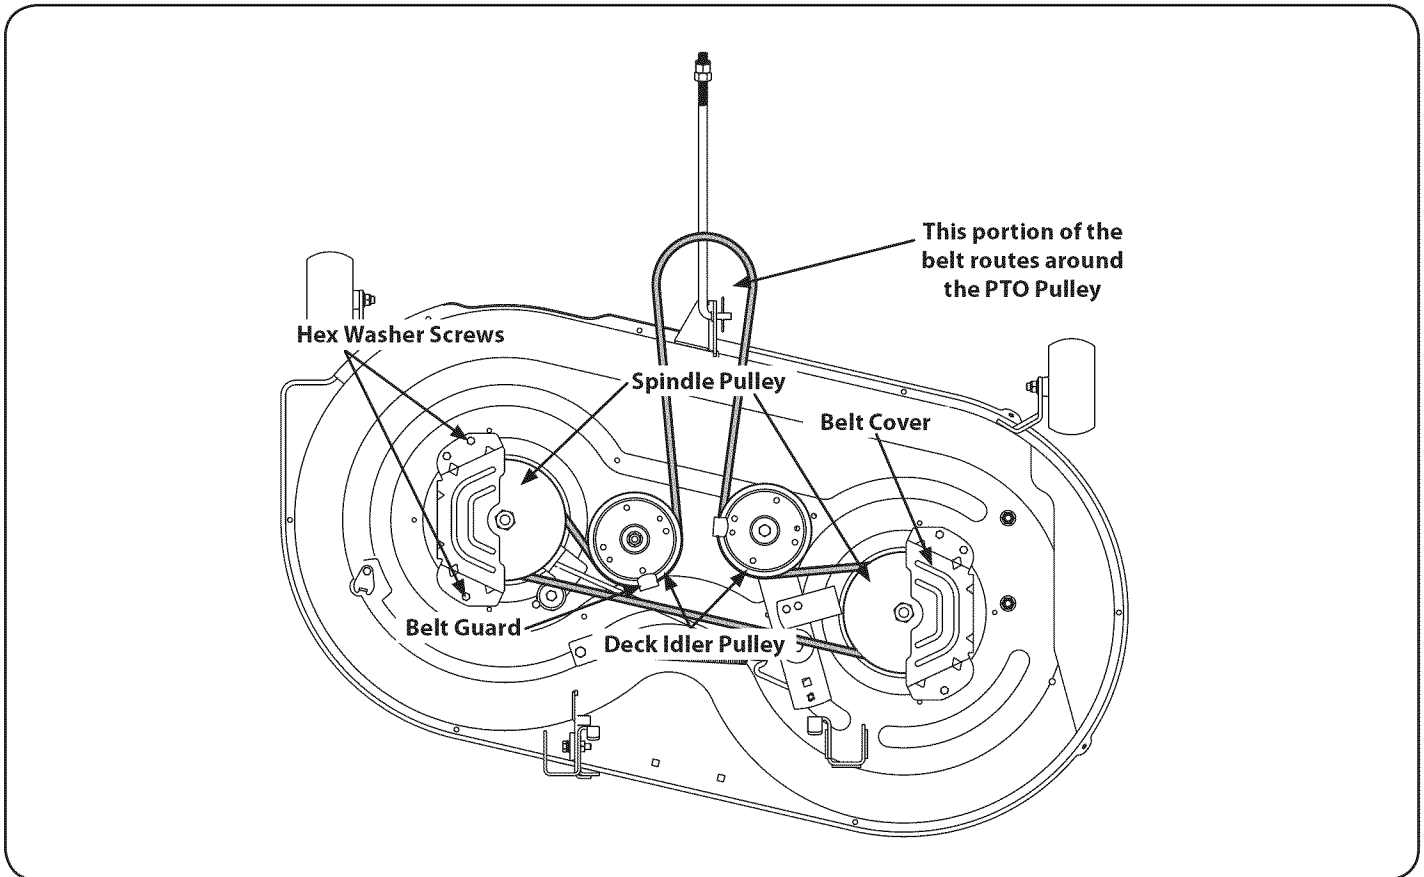

Figure 23
1. Remove the belt covers from the spindle pulleys by removing the hex screws that fasten the covers to the deck. See Figure 23.
3. Carefully remove the deck belt from around the two spindle pulleys and the two deck idler pulleys. See Figure 23.
4. To place the new belt, begin by routing the belt around the two outer spindle pulleys as shown in Figure 23.
5. Then route the belt around the two deck idler pulleys as shown in Figure 23.
8. Re-install the deck, making sure the belt remains routed around the pulleys as instructed. The complete belt routing is shown in Figure 23.